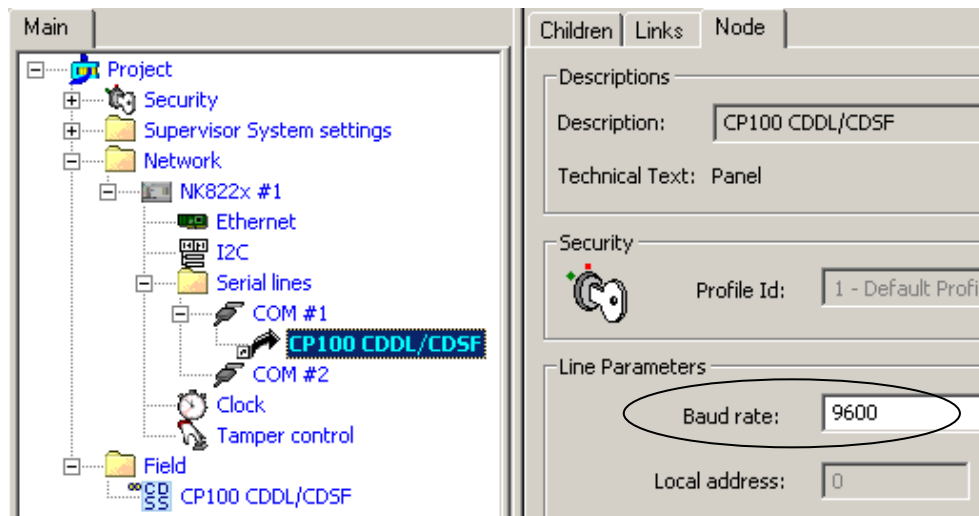

Fig. 17 Setting the baud rate
1. Select the new link node just below the NK82xx serial line node (see Fig. 17).